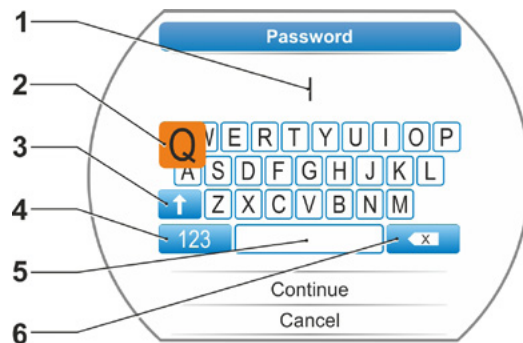

Fig. 3: Password entry
1. Turn Drive Controller and highlight desired character with the orange selection marker (fig. 3, item 2) or the desired function (items 3, 4, 6).
2. Press Drive Controller. The desired character is adopted to the line (item 1) or the function is executed.